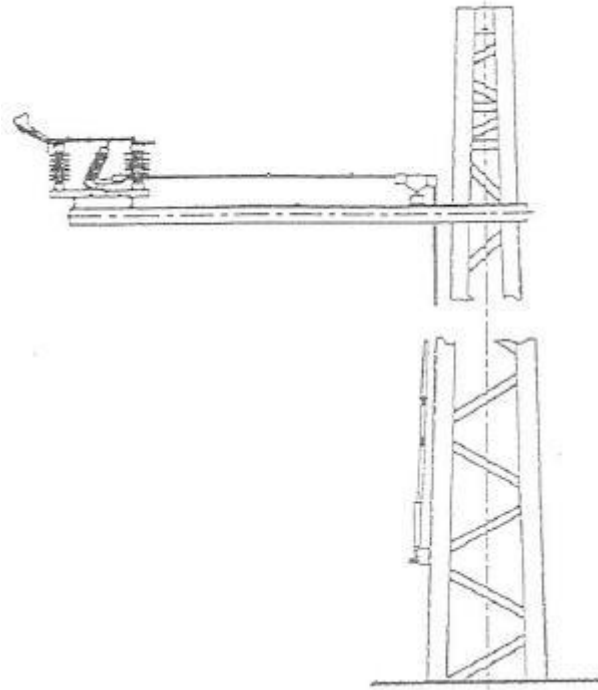

Fig .2
2. **Side Orientation:** The Air Switch will be installed on the side of the lattice pole with horizontal orientation, as Fig.2